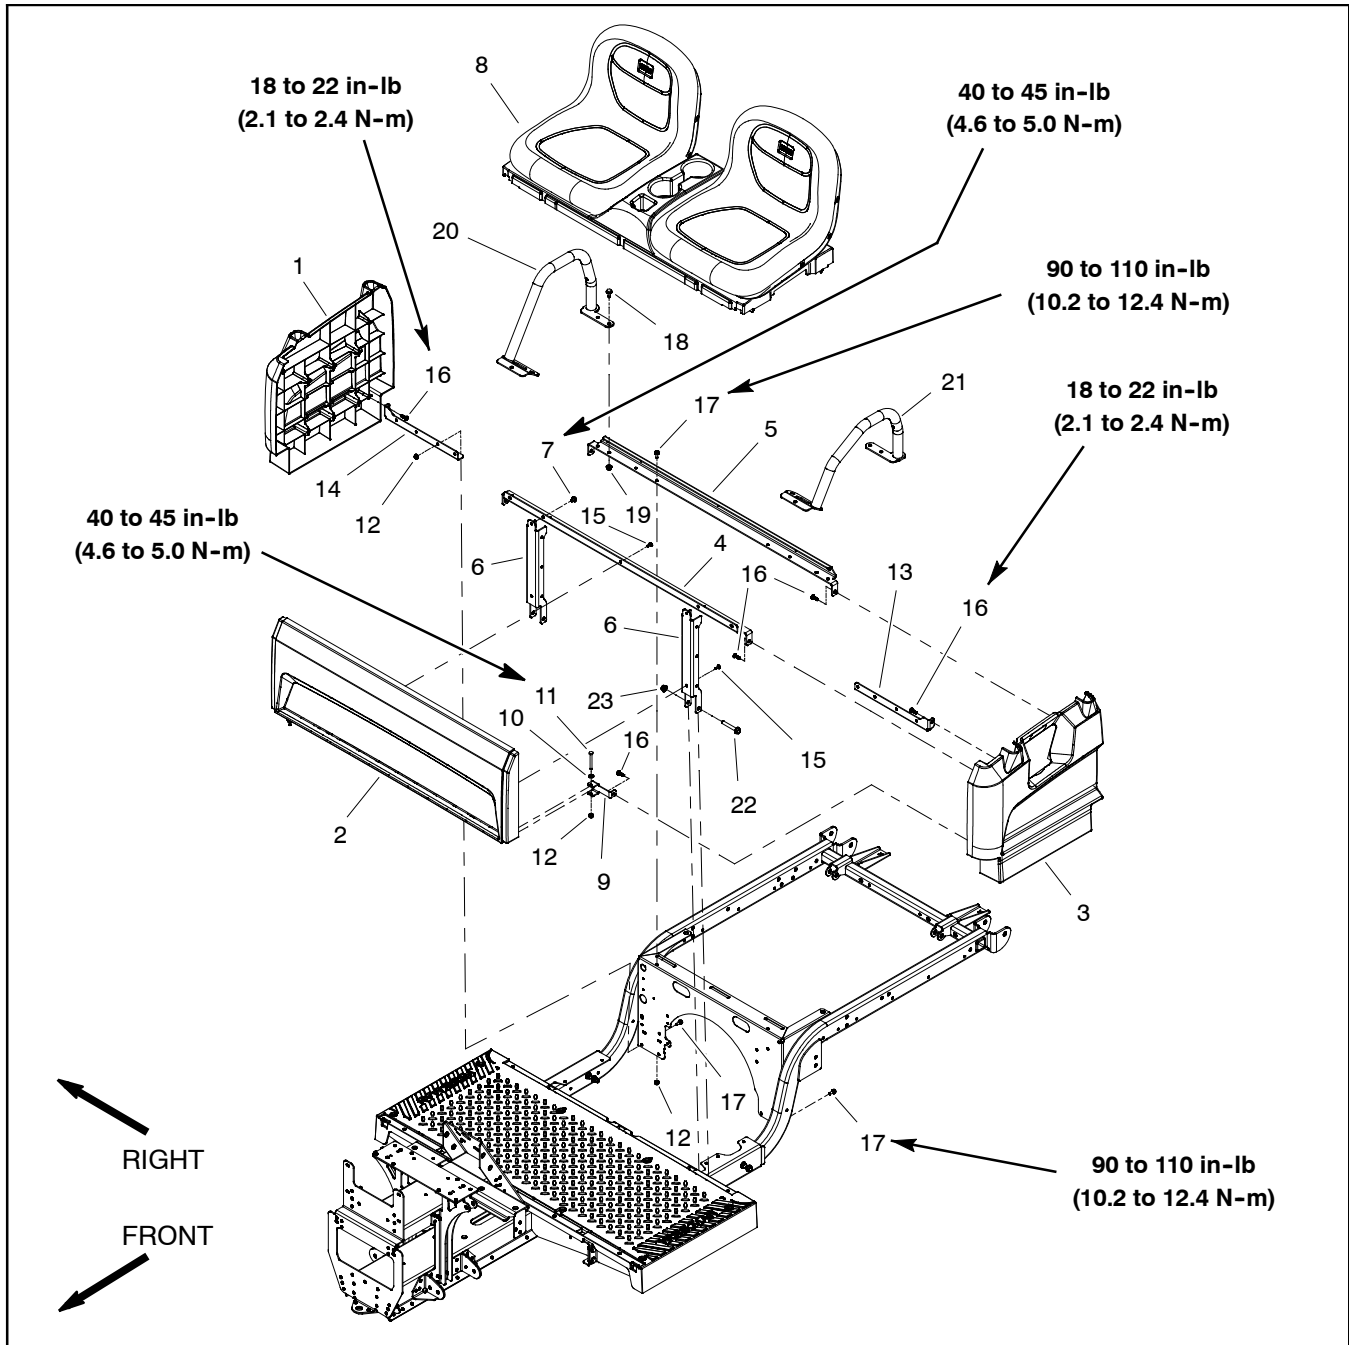

Figure 37
Disassembly (Fig. 37)
- C. Support left hand seat base side and remove four (4) screws that secure seat base side to supports illustrated in Figure 37.
4. Remove remaining seat base panels and supports from vehicle as needed using Figure 37 as a guide.
Assembly (Fig. 37)
2. Install all removed seat base panels and supports to vehicle using Figures 37 and 38 as guides. When securing seat base supports to vehicle, use torque values identified in Figures 37 and 38.